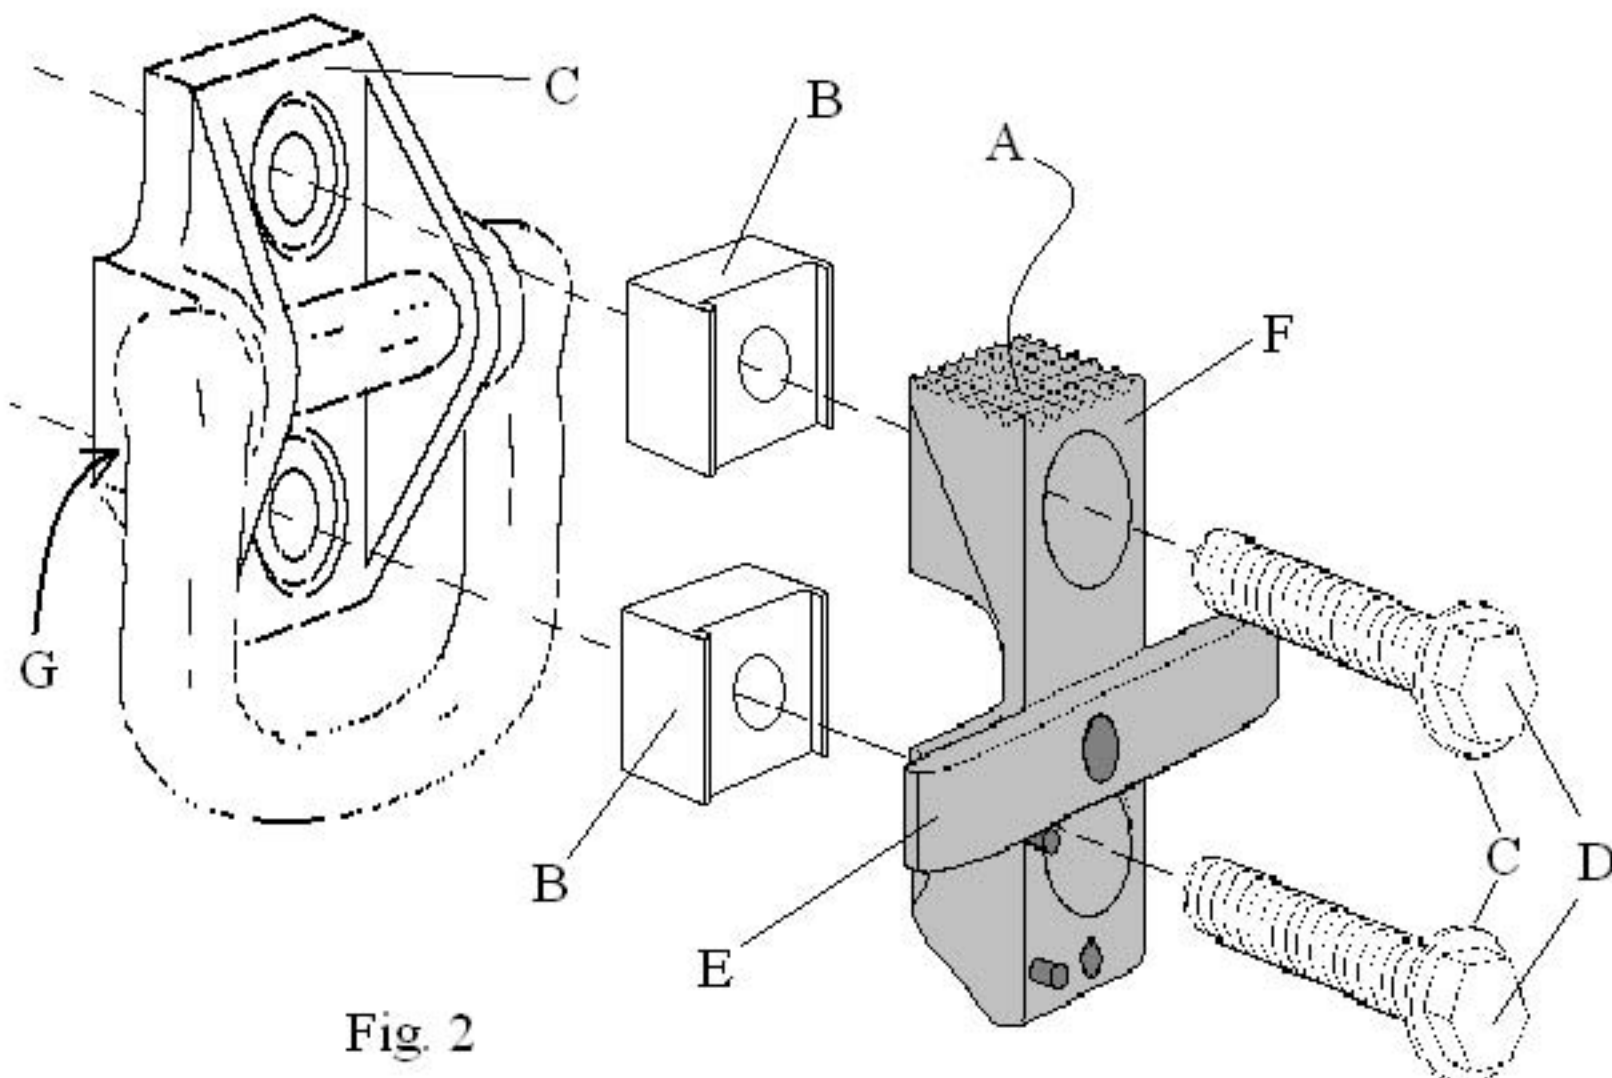

Fig. 2
- 2) Pivot the Gobi Recovery Loop Step load bar "E" to its horizontal position as shown in Fig. 2. Place bolts & washers "C" and "D" supplied with kit through Gobi Step "F" then through spacers "B" as shown in Fig. 2. Place the Gobi recovery loop step "F" with attached spacers "B" into the OEM recovery loop "C" as shown in Fig. 2 with knurling "A" in the upwards position.
- 3) Check that the OEM recovery loop "C" is positioned as shown in Fig. 2 page 3 and Fig. 3 page 5 with the curved area of the loop "G" faced down.